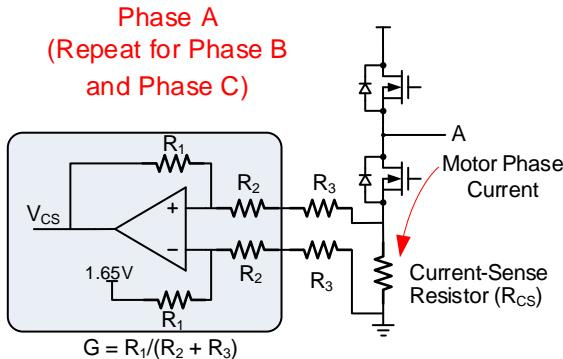

Figure 28: Current-Sense Diagram
A good rule of thumb is to leave a 50% margin for the power rating to guarantee the device can work normally at higher temperatures. Using Figure 28 below, the amplifier gain can be calculated with Equation (10):
It is typically recommended to leave a minimum 20% margin to guarantee a robust design. Ensure that this value is not too small. To improve current-sense accuracy, the calculated value should be at least 60% of 1.65V. Figure 28 shows the current-sense diagram.